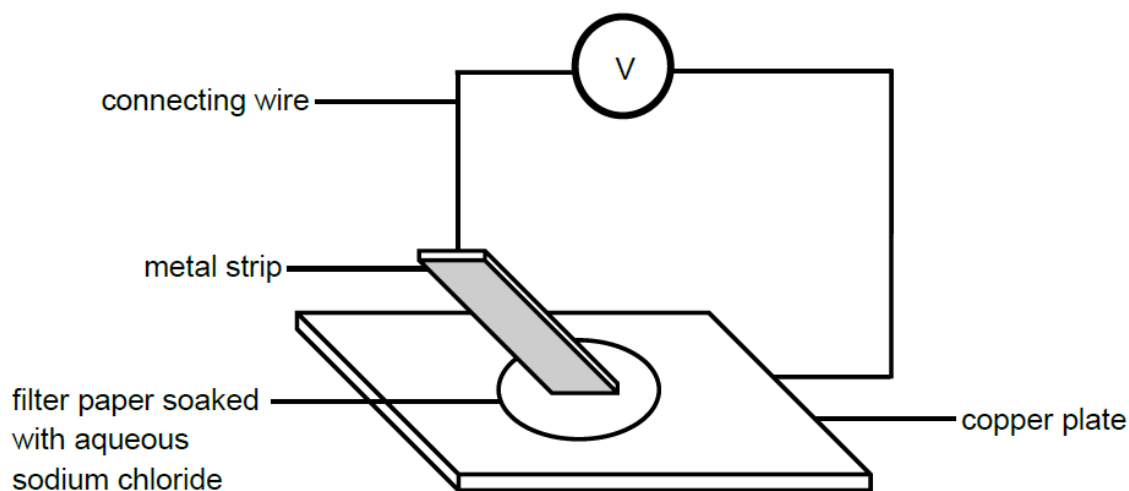

Fig. 7.1
- 7 Fig. 7.1 shows the apparatus used to investigate the relative reactivity of four metals, W, X, Y and Z. Metal strips W, X, Y and Z and a copper plate were first cleaned with sandpaper. Strips of these metals were connected in turn with the wet filter paper resting on the copper plate and the voltmeter reading was recorded in Table 7.1.